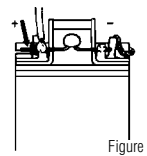

Figure 5
5. Solder the third capacitor from the positive to the negative motor tabs. (See figure 5).